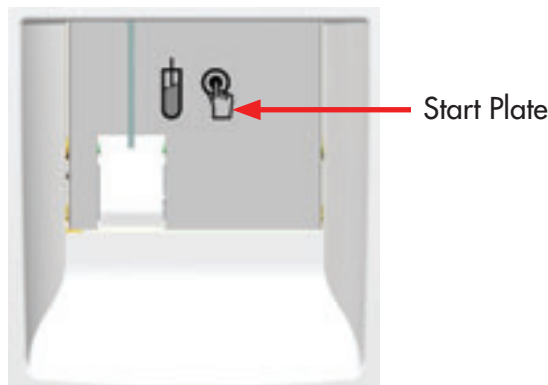

Figure 8.7
- 3 Press the whole blood start plate, which is located behind the whole blood sample probe. (See Figure 8.7 below.)